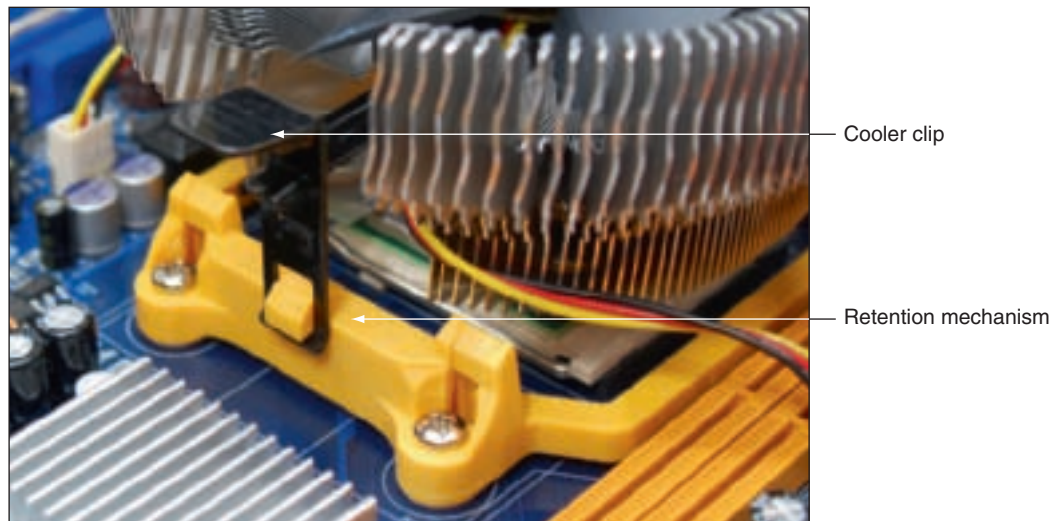

Figure 6-48 The cooler clips onto the retention mechanism mounted to the motherboard
8. Clip into place the clipping mechanism on one side of the cooler. Then push down firmly on the clip on the opposite side of the cooler assembly; the clip will snap into place. Figure 6-48 shows the clip on one side in place for a system that has a yellow retention mechanism and a black cooler clip. Later, if you need to remove the cooler, use a Phillips screwdriver to remove the screws holding the retention mechanism in place. Then remove the retention mechanism along with the entire cooler assembly.